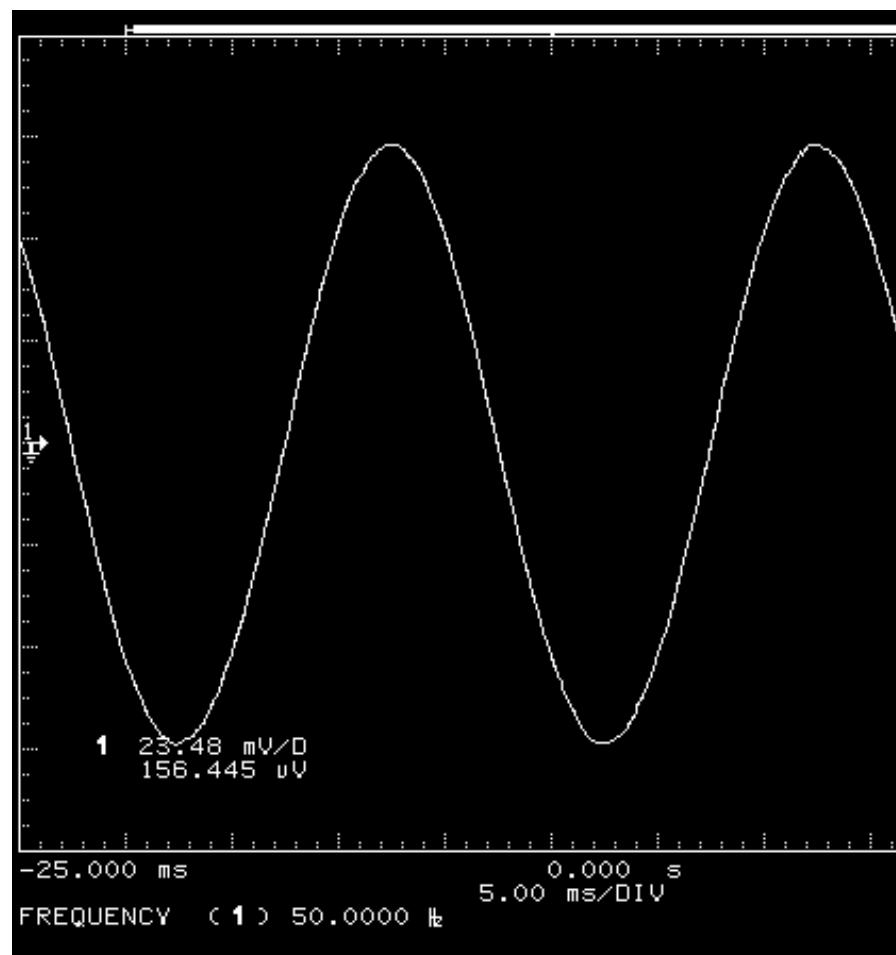
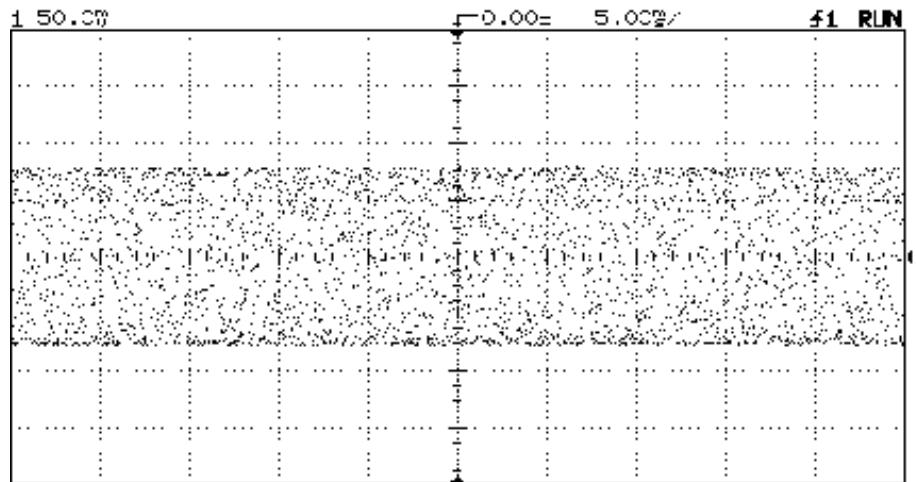

Figure 1
Figure 3
2. Make sure the scope's effective sample rate is as fast as possible. Most oscilloscopes decrease their effective sample rate as the time/div is slowed. (Note that repetitive scopes can have a high effective sample rate, even with a low actual sample rate). If you suspect an aliased waveform, increase the sweepspeed to ensure that the scope is sampling as fast as possible for proper display of the waveform. For example, Figure 1 shows an aliased waveform at 5 ms/div. The actual signal is 13 MHz but the scope measures 50 Hz! At this sweepspeed the scope is sampling at 10 kSa/s, severely violating the Nyquist* criteria. Figure 2 shows the same signal at 20ns/div. At this sweepspeed the scope is sampling at 2GSa/s. The scope displays the correct signal and measures the correct frequency, 13 MHz.
3. Some oscilloscopes employ techniques to prevent aliasing. HP 54600-series oscilloscopes use a patented proprietary algorithm to reduce aliasing. In Figure 1 the signal is aliased. Figure 3 shows the same signal on an HP 54600B oscilloscope. The waveform is not aliased at the same sweep speed due to the anti-aliasing algorithms.